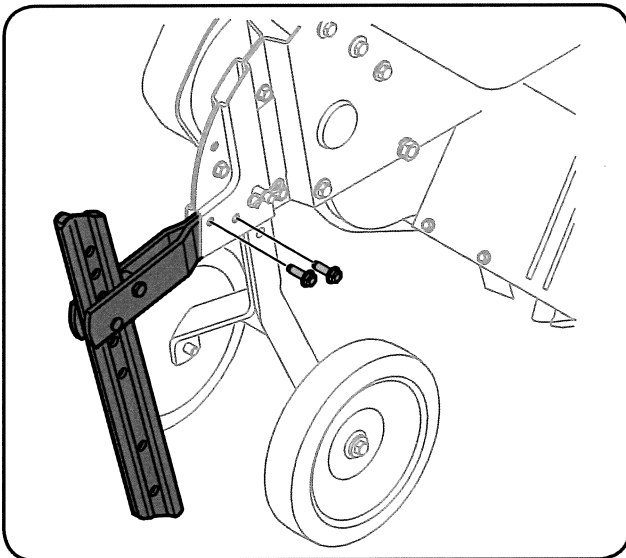

Figure 3-4
2. Remove the two screws from the bracket in the chain case. See Figure 3-4.
3. Insert the horizontal bracket into the chain case brackets and secure the depth stake assembly in place with the screws just removed in step 1. See Figure 3-4.